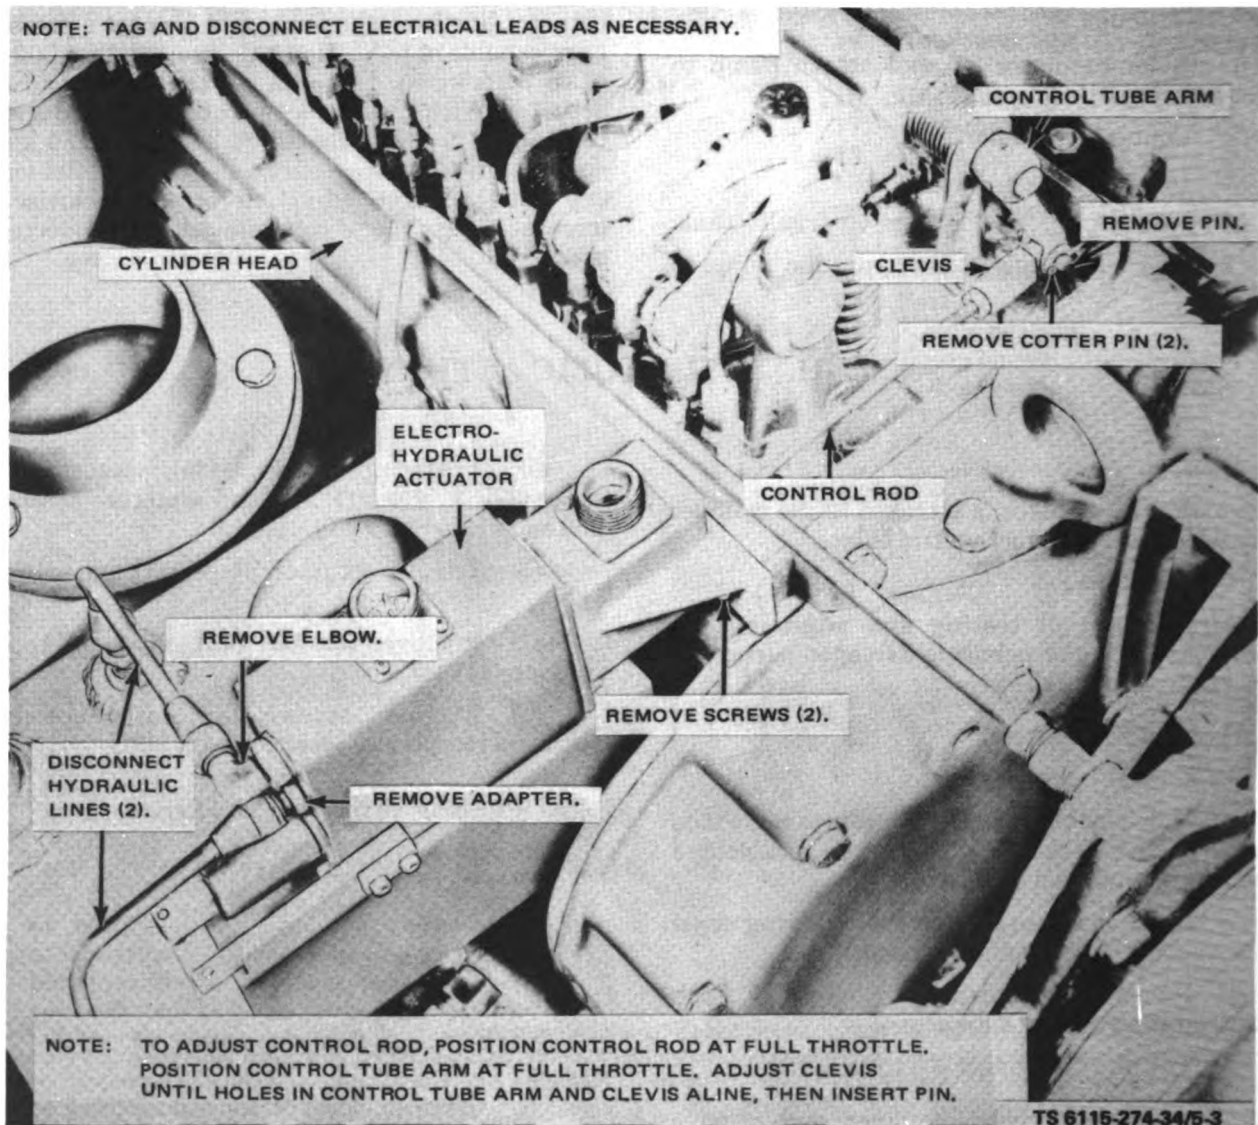

Figure 5-3. Electrohydraulic Actuator, Removal and Installation
(1) Loosen thumbscrews and remove the rocker arm cover. Disconnect the throttle cable and the actuator shutdown solenoid.
(2) Refer to figure 5-3 and the following steps for removal of the hydraulic actuator.
(3) Remove pin and cotter pins and detach control rod from control tube arm.
(4) Tag and disconnect electrical leads.
(5) Disconnect hydraulic lines and remove elbow and adapter.
(6) Remove screws and remove actuator.
(1) Refer to figure 5-3 for installation of actuator.
(2) Install actuator to cylinder head with screws.
(3) Install elbow and adapter and connect hydraulic lines.
(4) Connect electrical leads.
(5) Attach control rod to control tube arm. Position control rod at full throttle. Position control tube arm at full throttle. Adjust clevis until holes in control tube arm and clevis align, then insert pin and cotter pins.
(6) Connect the throttle cable and the actuator shutdown solenoid.
(7) Install rocker arm cover and tighten thumbscrews.